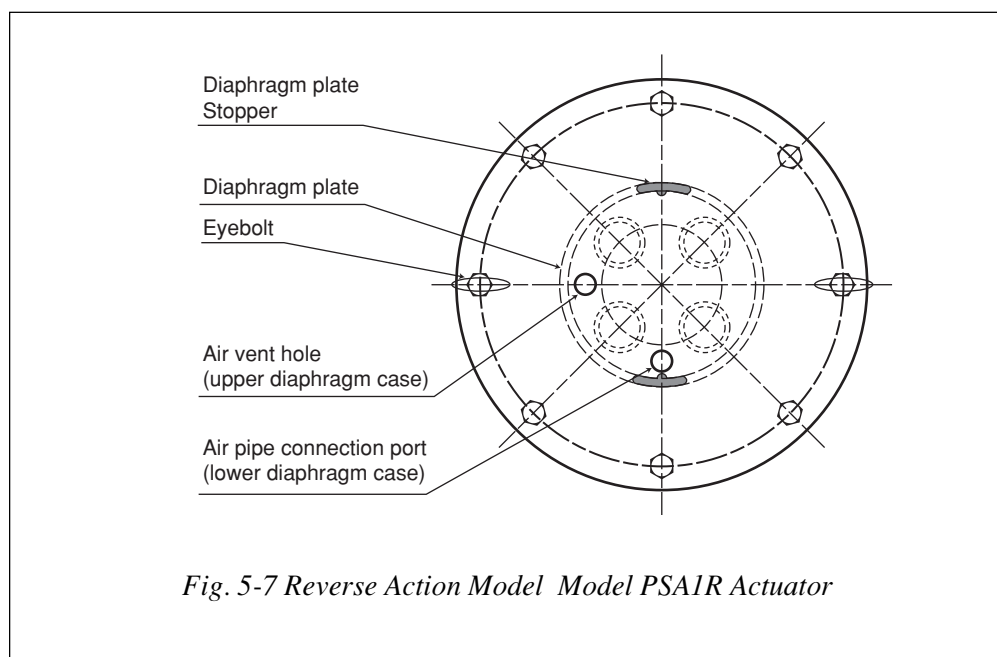

Fig. 5-7 Reverse Action Model Model PSAIR Actuator
- (1) Secure the bottom diaphragm case with the four bolts to the yoke. At the same time, set the air pipe connection port in the location shown in the Fig. 5-7.
- (2) Insert the actuator rod (with diaphragm connected) into the bushing. Be careful to prevent the bushing's inside surface or dust seal from being damaged by the threaded section of the rod. If possible, cover the threaded section with adhesive tape.
- (3) Rotate the actuator rod, locating its diaphragm plate stopper as shown in Fig. 5-7.
- (4) Fasten the spring plate and install the springs onto the spring plate.
(see Fig. 5-7).
Note: Set the air vent hole to the location shown in Fig. 5-7. Uniformly and alternately tighten the eyebolts. The initial setting of the springs is completed by tightening these eyebolts.